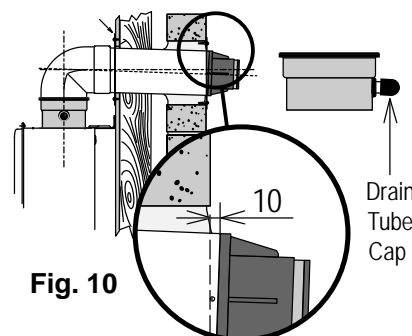

Fig. 10
Ensure the drain tube cap remains fitted in place (Fig. 10).
5. Measure the required length for the horizontal terminal to penetrate the wall and allow an extra 10mm protrusion from the wall outer surface as shown in Fig. 10. See the section "Cutting The Flue Components" on page 3 for correct cutting requirements.